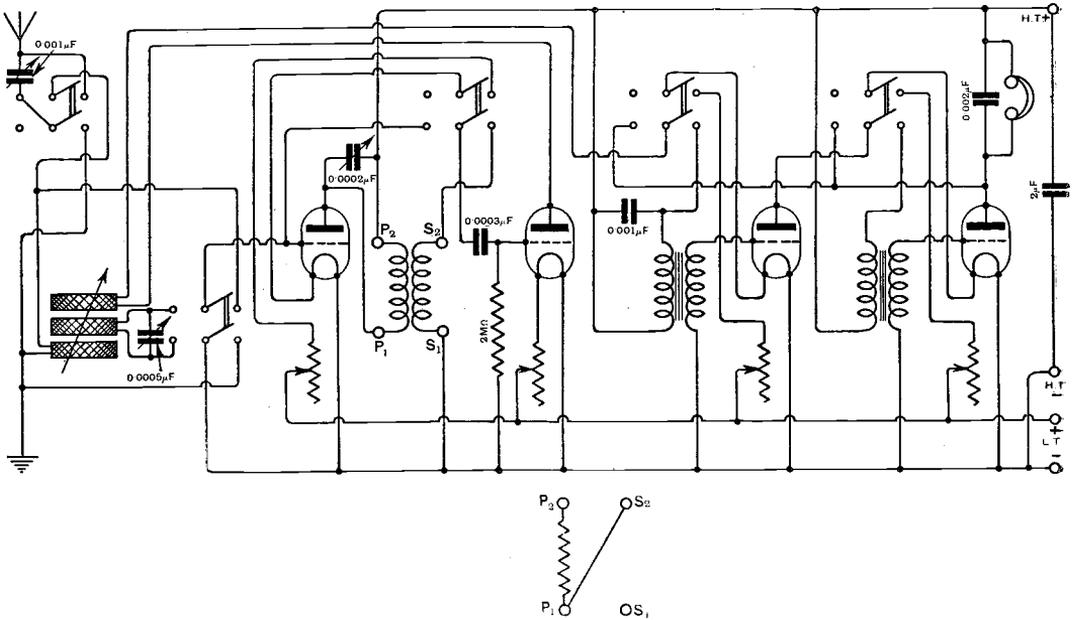

Fig. 3. "S.I." (N.W.10). A receiver with one stage of H.F. amplification, detector, and two note magnifiers. Alternative H.F. coupling is provided.
(1) In all probability the secondary coil is too large or too small, and cannot therefore be tuned to resonance with the aerial circuit. (2) The diagram is shown in Fig. 3. To change from trans-